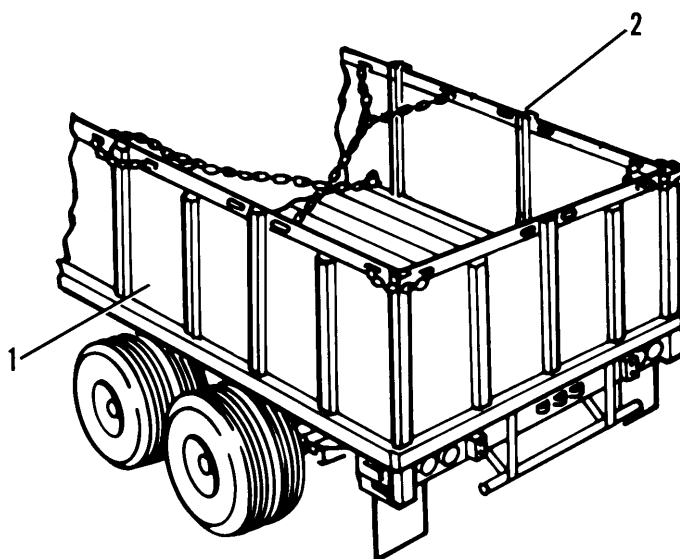

Figure 2-23. Side Panels and Stakes
- (1) Starting at the rear of the semitrailer, number each panel (1, fig. 2-23) and stake (2) per side and position with chalk. (Example: 2R is the second panel from the rear of the semitrailer on the right side.)